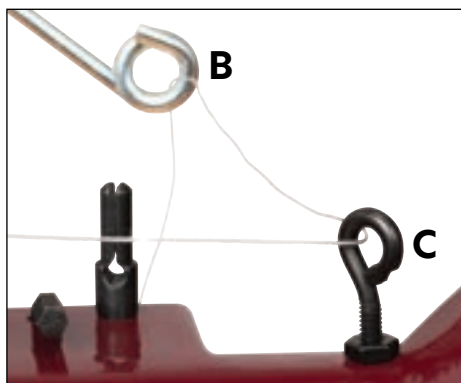

Figure 6
- 1) Run thread from Spool **(A)** on Thread Stand **(B)** to the Thread Eyelet **(C)**. **(Figure 6)**